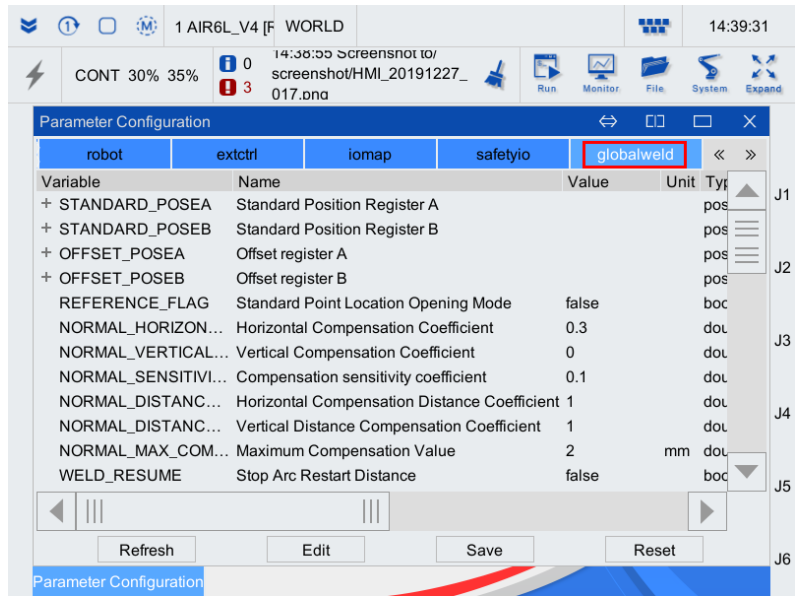

Fig. 4-18 Interface of arc welding database
Step 2. On the pop-up "Parameter Configuration" interface, click the "globalwelding" tab, as shown in Fig. 4-18.